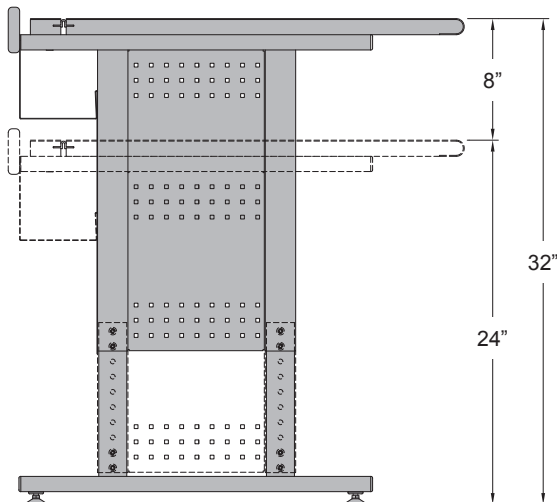

**Figure 2.1**
1. Orient the modesty panel/cord channel as shown and attach to the legs with (4) 1/4-20 x 5/8" PHM screws. **Figure 2.1.**
2. Install the (4) glides to the bottom of the legs. The glides can be adjusted later to keep the desk level on uneven surfaces.